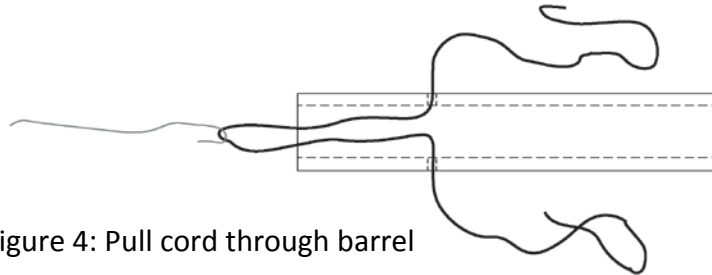

Figure 4: Pull cord through barrel
9. Straighten the paper clip, leaving a hook on the end. Use it to reach into the breach end and pull a loop of the cord out of the PVC pipe. (see figure 4)